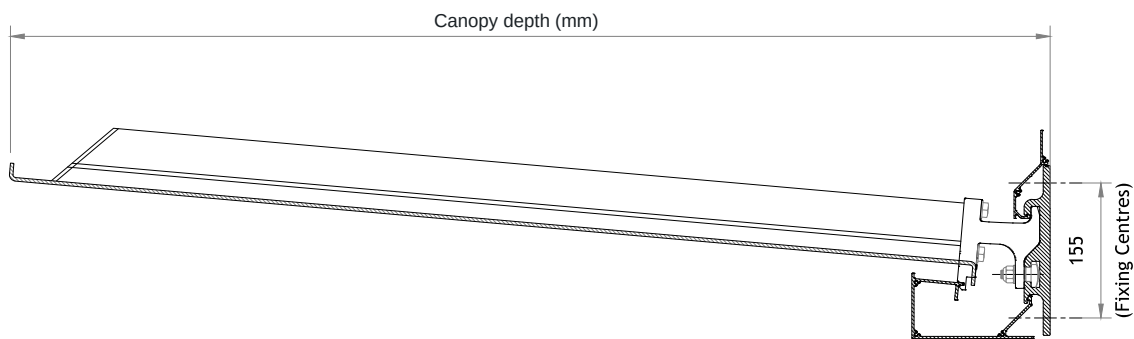

Figure 1 · Canopy depth is measured from the face of the rail to the front edge of the tray. The canopy falls 5° back to the gutter.
Depth is the cantilever, measured from the face of the rail to the front edge of the tray (Figure 1). There are five standard depths, from 1,600 mm to 2,400 mm. The deepest canopy you can use depends on the site wind or snow zone, set out in Table 2 on page 4.
- Choose a standard depth.** Canopy depth is defined in Figure 1.